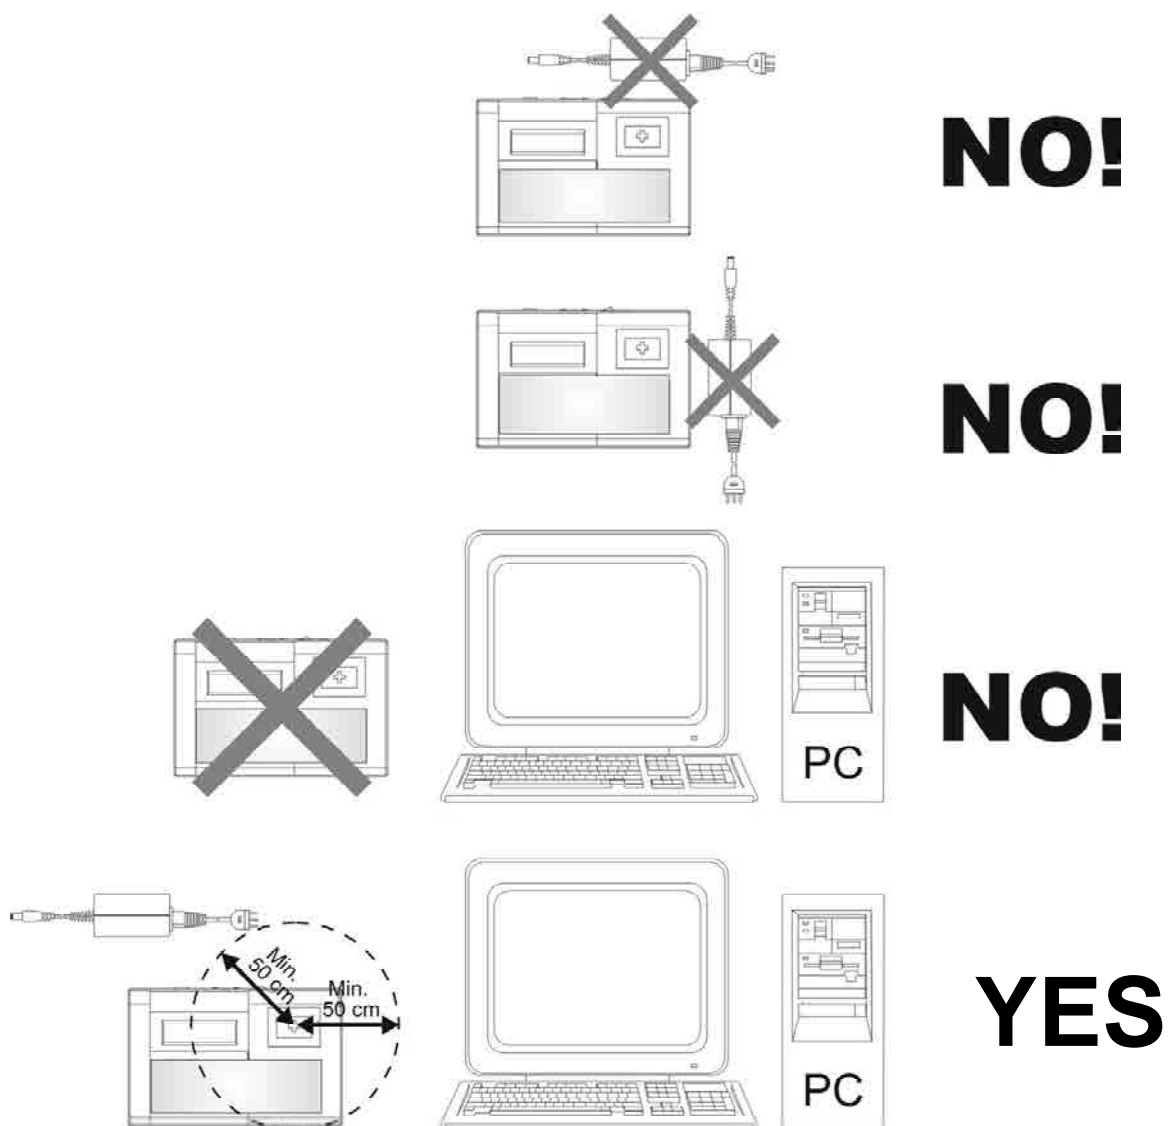

Fig. 5
**the universal feeder provided with the machine and any electronic equipment should be placed at least 50 cm from the antenna to avoid their generating interference which could affect reading and/or writing of the transponder (see Fig. 5, page 13).**